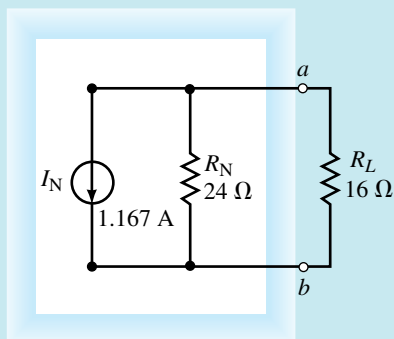

FIGURE 9–32
Step 6: The resultant Norton equivalent circuit is shown in Figure 9–32.